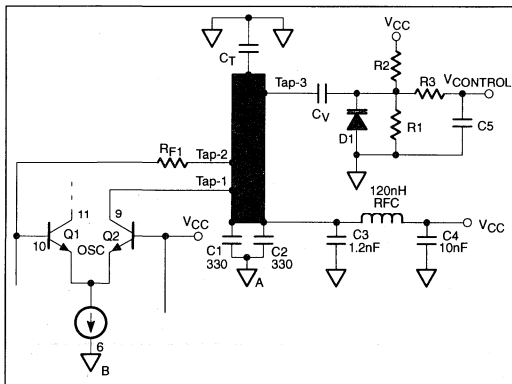

Figure 66. SA620 with Tapped-L  $\mu$ -Strip Resonator
The basic electrical circuit involving the SA620 is shown in Figure 66. Feedback occurs when sufficient RF voltage develops across the tap inductances  $L_{T1}$  and  $L_{T2}$  (due to tap-1 and tap-2 respectively); note that inductance is reckoned from the cold end of the tank at node A. Taps 1 and 2 should be as close as possible to Pins 10 and 9, respectively. Also, nodes A (cold end of tank) and B (Pin 6) must be as physically close together and exhibit as low an impedance as possible to discourage parasitic oscillations. This "inner-loop" composed of  $L_{T2}$ , inductance of taps 1 and 2 connecting to Pins 10 and 9, and stray low Q inductance between nodes A and B create a parasitic loop that will favor oscillations that no longer depend on the full tapped-L tank circuit. This low-Q loop will exhibit very poor phase noise and typically oscillate well above 1200MHz; it has been observed as high as 1600MHz.
**Pin 9 and Pin 10** drive the base of one and the collector of another of the broadband VCO differential pair input stage transistors as shown in Figure 64. Components  $C_5$ ,  $C_6$ ,  $C_7$ ,  $C_8$ ,  $C_9$ ,  $C_{10}$ ,  $C_{11}$ ,  $L_2$ ,  $R_1$ ,  $R_2$ ,  $R_3$ ,  $R_4$ ,  $D_1$  and the 300 mil  $\mu$ -strip comprise the resonant tank circuit described in detail above and shown in Figure 66.